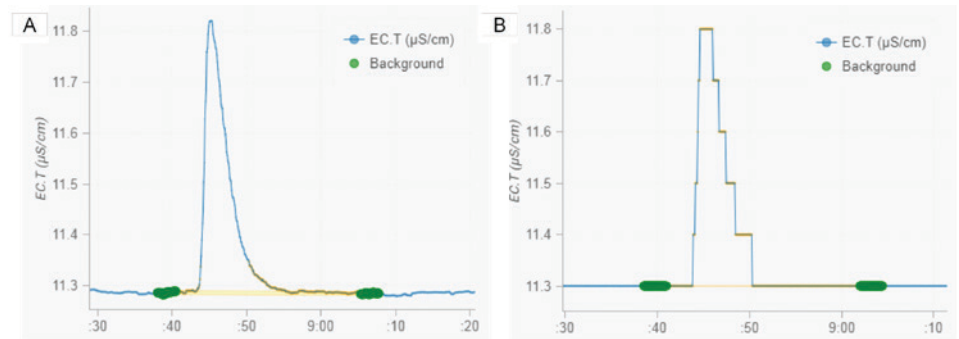

Figure 3. A & B
Water is known as the universal solvent because of its ability to pull molecules apart in solution, due to its polarized structure. This allows ions to freely travel between attractors and repellents. It's this increased conductivity (lowered resistance) that the Salt Dilution method exploits to measure the time varying [NaCl]. Conductance varies nearly linearly with [NaCl], and we've called this linear correlation the Calibration Factor (CF). To normalize this relationship, we use the Non-Linear Function (nlf) correction to 25 °C and call this the CF.T. In this way, we can compare and predict CF.T values from different probes, sites, and times. The theoretical CF.t, as a function of both [NaCl] and EC.T, is shown in Figure. This figure is taken from Figure 3 of Richardson et al (2017). In general, Salt Dilution measurements are made at EC.T values less than 1000 μS/cm, and so we expect a CF.T of less than 0.50 [mg/L]/[μS/cm].